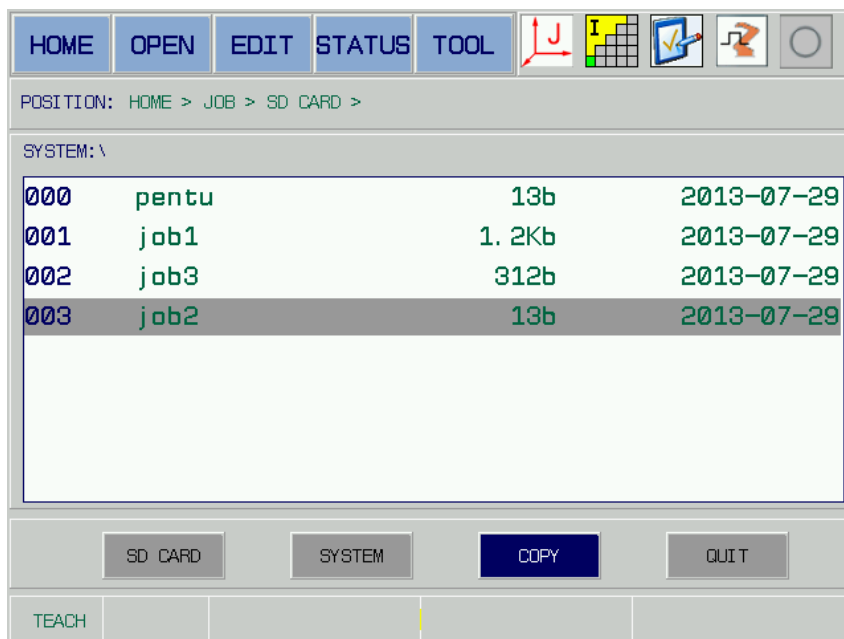

Fig. 5-24
4. Move the cursor to the “YES” by left/right direction button, and then complete the program copy by [SELECT]; refer to the Fig. 5-24.